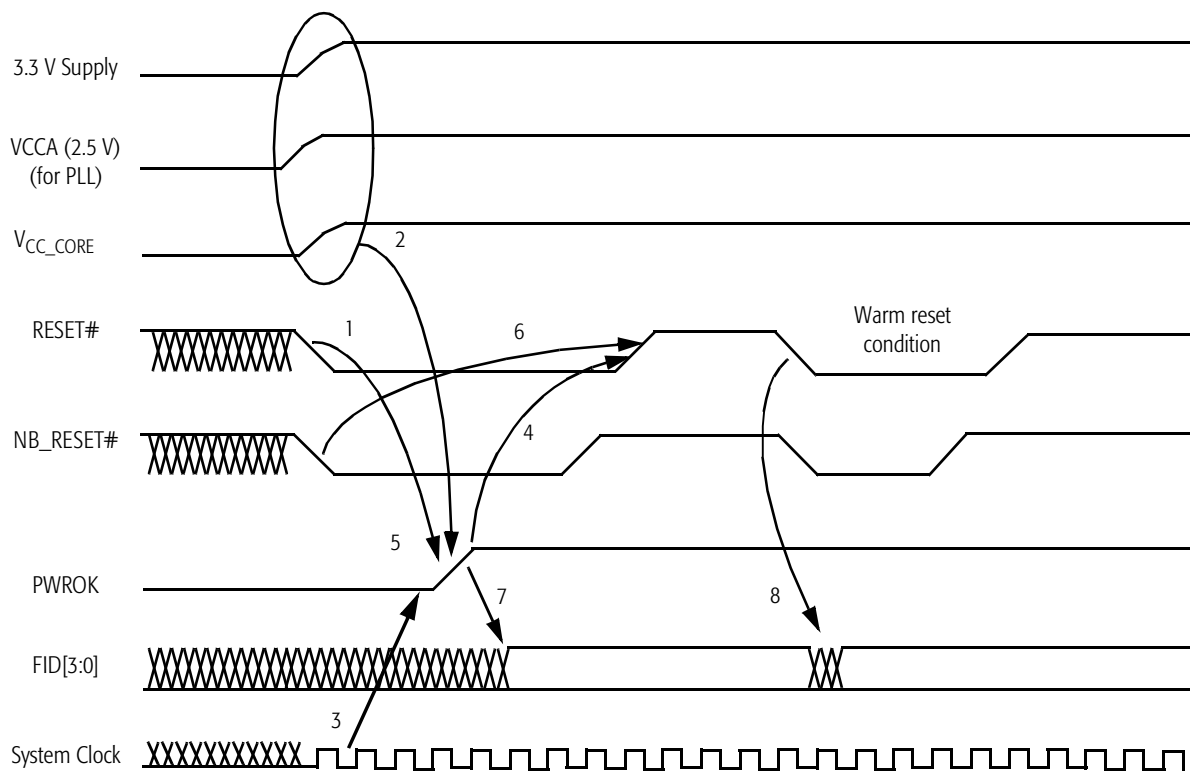

Figure 13. Signal Relationship Requirements During Power-Up Sequence
Figure 13 shows the relationship between key signals in the system during a power-up sequence. This figure details the requirements of the processor.
1. Figure 13 represents several signals generically by using names not necessarily consistent with any pin lists or schematics.
2. Requirements 1–8 in Figure 13 are described in “Power-Up Timing Requirements” on page 46.